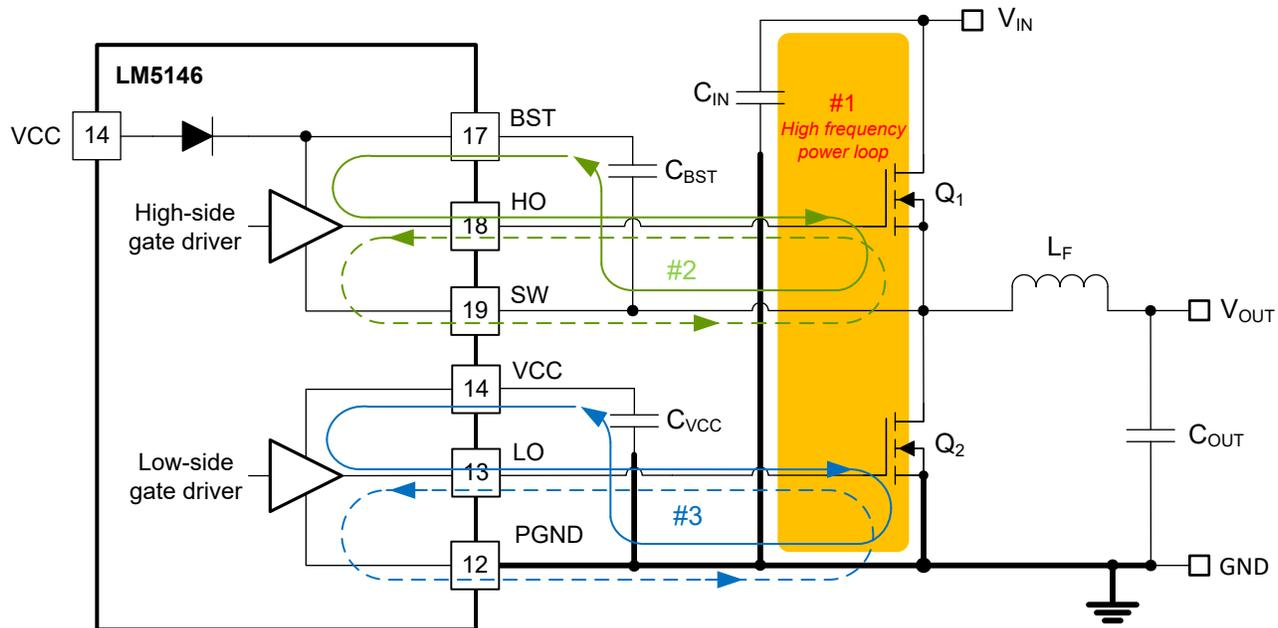

Figure 11-1. DC/DC Regulator Ground System With Power Stage and Gate Drive Circuit Switching Loops
Proper PCB design and layout is important in a high-current, fast-switching circuits (with high current and voltage slew rates) to assure appropriate device operation and design robustness. As expected, certain issues must be considered before designing a PCB layout using the LM5146. The high-frequency power loop of the buck converter power stage is denoted by #1 in the shaded area of Figure 11-1. The topological architecture of a buck converter means that particularly high di/dt current flows in the components of loop 1, and it becomes mandatory to reduce the parasitic inductance of this loop by minimizing its effective loop area. Also important is the gate drive loops of the low-side and high-side MOSFETs, denoted by 2 and 3, respectively, in Figure 11-1.
- Loop #1: The most important loop to minimize the area of is the path from the input capacitor or capacitors through the high- and low-side MOSFETs, and back to the capacitor or capacitors through the ground connection. Connect the input capacitor or capacitors negative terminal close to the source of the low-side MOSFET (at ground). Similarly, connect the input capacitor or capacitors positive terminal close to the drain of the high-side MOSFET (at V_{IN}). Refer to loop #1 of Figure 11-1.
5. The SW pin connects to the switch node of the power conversion stage and acts as the return path for the high-side gate driver. The parasitic inductance inherent to loop #1 in Figure 11-1 and the output capacitance (C_{OSS}) of both power MOSFETs form a resonant circuit that induces high frequency (> 100 MHz) ringing on the SW node. The voltage peak of this ringing, if not controlled, can be significantly higher than the input voltage. Ensure that the peak ringing amplitude does not exceed the absolute maximum rating limit for the SW pin. In many cases, a series resistor and capacitor snubber network connected from the SW node to GND damps the ringing and decreases the peak amplitude. Provide provisions for snubber network components in the PCB layout. If testing reveals that the ringing amplitude at the SW pin is excessive, then include snubber components as needed.
- Loop 2: high-side MOSFET, Q_1 . During the high-side MOSFET turnon, high current flows from the bootstrap (boot) capacitor through the gate driver and high-side MOSFET, and back to the negative terminal of the boot capacitor through the SW connection. Conversely, to turn off the high-side MOSFET, high current flows from the gate of the high-side MOSFET through the gate driver and SW, and back to the source of the high-side MOSFET through the SW trace. Refer to loop #2 of Figure 11-1.
- Loop 3: low-side MOSFET, Q_2 . During the low-side MOSFET turn-on, high current flows from the VCC decoupling capacitor through the gate driver and low-side MOSFET, and back to the negative terminal of the capacitor through ground. Conversely, to turn off the low-side MOSFET, high current flows from the gate of the low-side MOSFET through the gate driver and GND, and back to the source of the low-side MOSFET through ground. Refer to loop #3 of Figure 11-1.